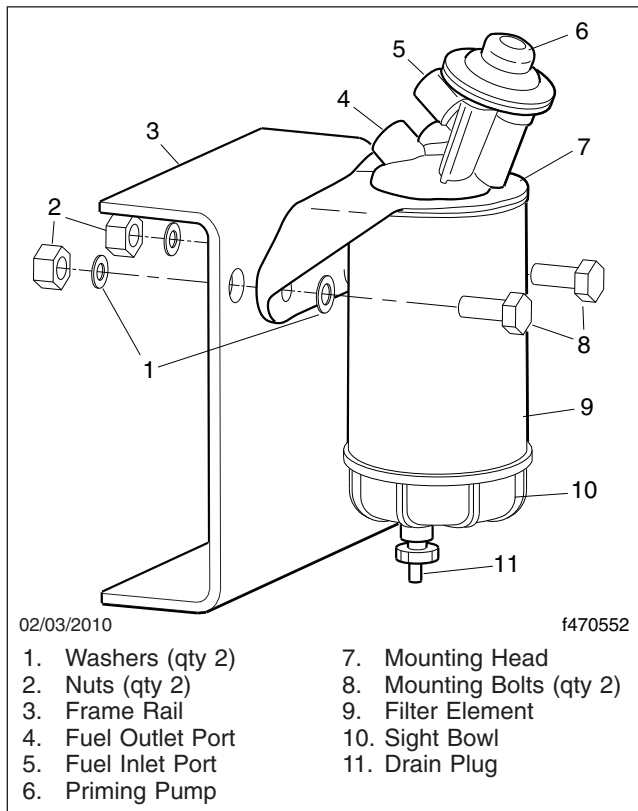

Fig. 20.10, Alliance Fuel/Water Separator Assembly and Installation
5.3 *Alliance/Racor Models:* Turn the drain plug counterclockwise to open it. See Fig. 20.10.